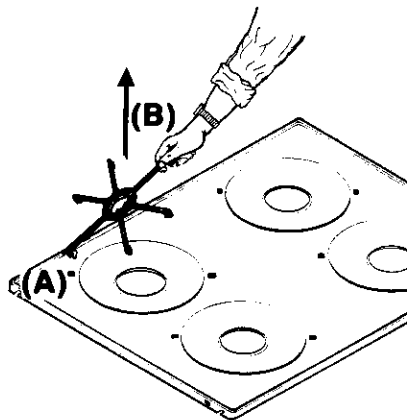

FIGURE 3
**STEP 2 -** Holding the grate leg (B) raise the grate vertically upward as shown in figure 3 until the leg (A) with spring clip snaps out of the slot.